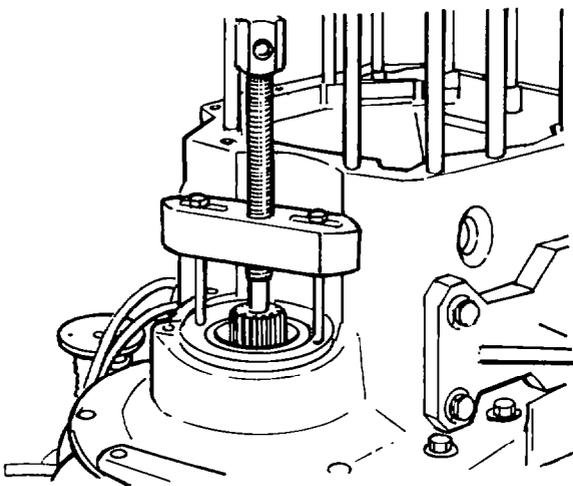

Figure 32 Withdrawing the Oil Pump
- (3) Use Special Tool No. 2 to withdraw the oil pump from the gearbox (see Fig 32); remove the Woodruff key from the input shaft.